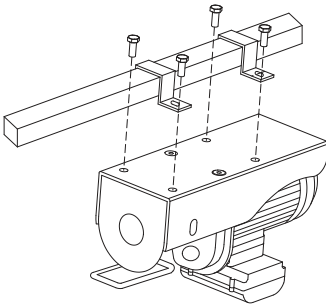

FIG.2
3. With the help of an assistant hold the electric hoist in place while installing the bolts through the fixing rings, in the threaded orifices in the electric hoist fixing grid (see figures 2, 3, 4).